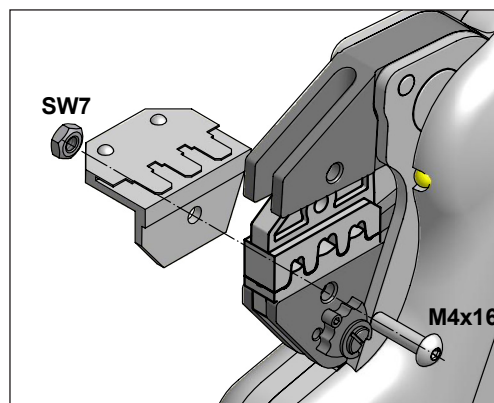

Figure 7
8.1.2.1 Examples: non-insulated open plug connectors, D-sub plugs, etc. (Figure 7)
5. Push the positioning guide onto the M4x16 screw as shown in Figure 7 and secure using the nut (SW 7).